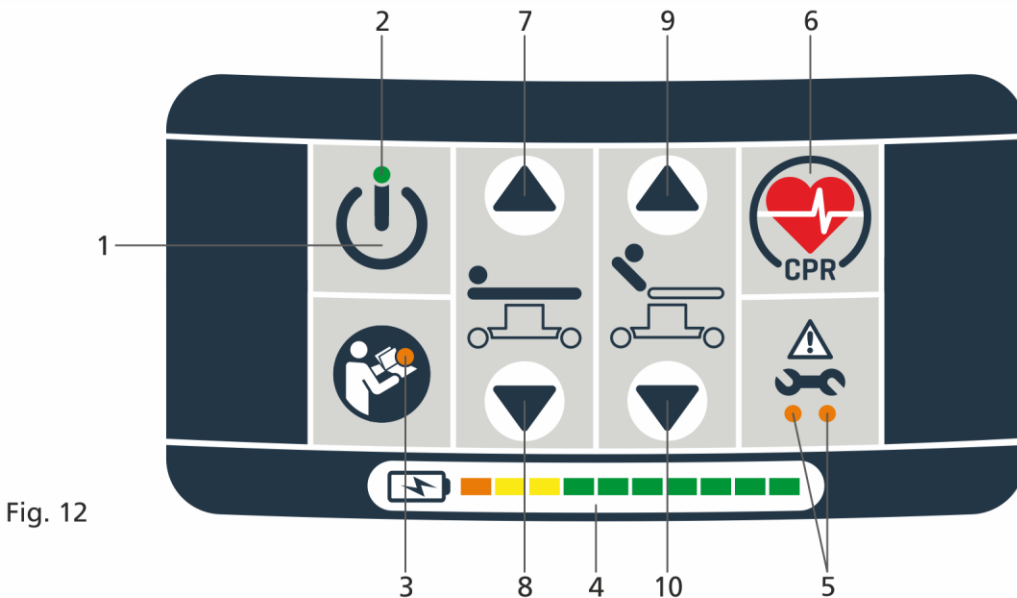

Fig. 12
Key to Fig.12 - User Interface (foot end), used on the following products; Powered Emergency Trolley (21126), DRIVE Powered Emergency Trolley (21124)
The trolley is switched on by depressing the ON/OFF Button (item 1, Fig.12).
The height of the patient platform is adjusted by depressing, and holding, either the raise or lower button (items 7 & 8, Fig.12).
The angle of the backrest is raised and lowered by depressing either the up or down button (items 9 & 10, Fig.12).